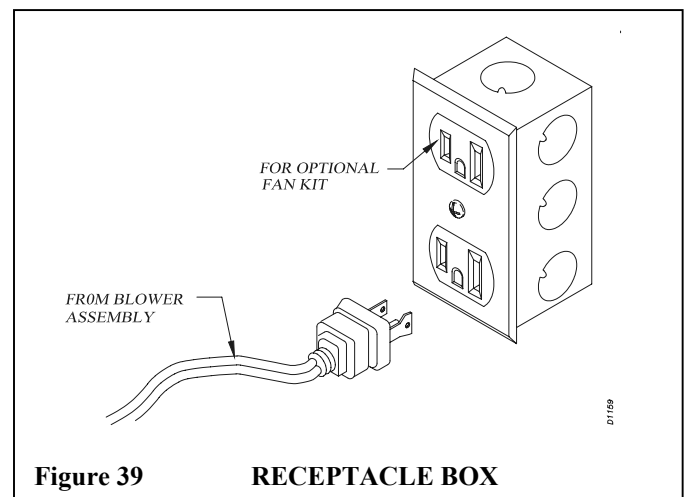
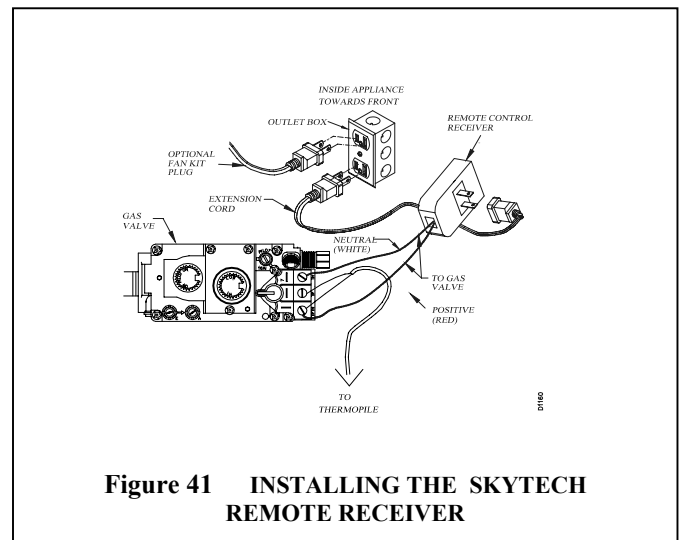
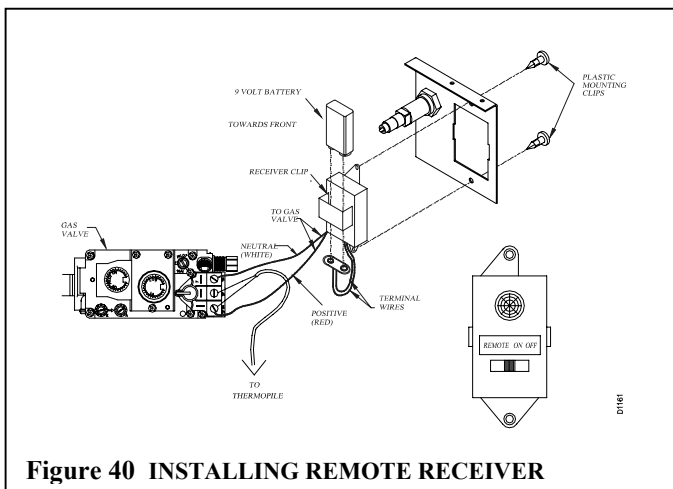

Figure 39 RECEPTACLE BOX
Figure 41 INSTALLING THE SKYTECH REMOTE RECEIVER
Figure 40 INSTALLING REMOTE RECEIVER
An outlet box with two receptacles has been provided for your convenience and is located on the lower right side of the appliance (see figure 39). The variable speed controller is mounted on a magnetic base and may be positioned anywhere within an accessible distance behind the louvered opening (see figure 40).
3. Slide a 9 volt battery into the clip on the back of the USRC remote receiver and connect the battery terminals to the battery. Install the remote mount the unit on the bracket with the clips provided. (see figure 40) The USRC receiver may also be installed to replace an existing wall switch and can be mounted in a standard switch box using the cover plate and screws provided. The SKYTECH model receiver does not require a battery and can be installed by plugging the extension cord into one of the outlet receptacles on the outlet box, and then plugging the unit into the extension cord (see figure 41).